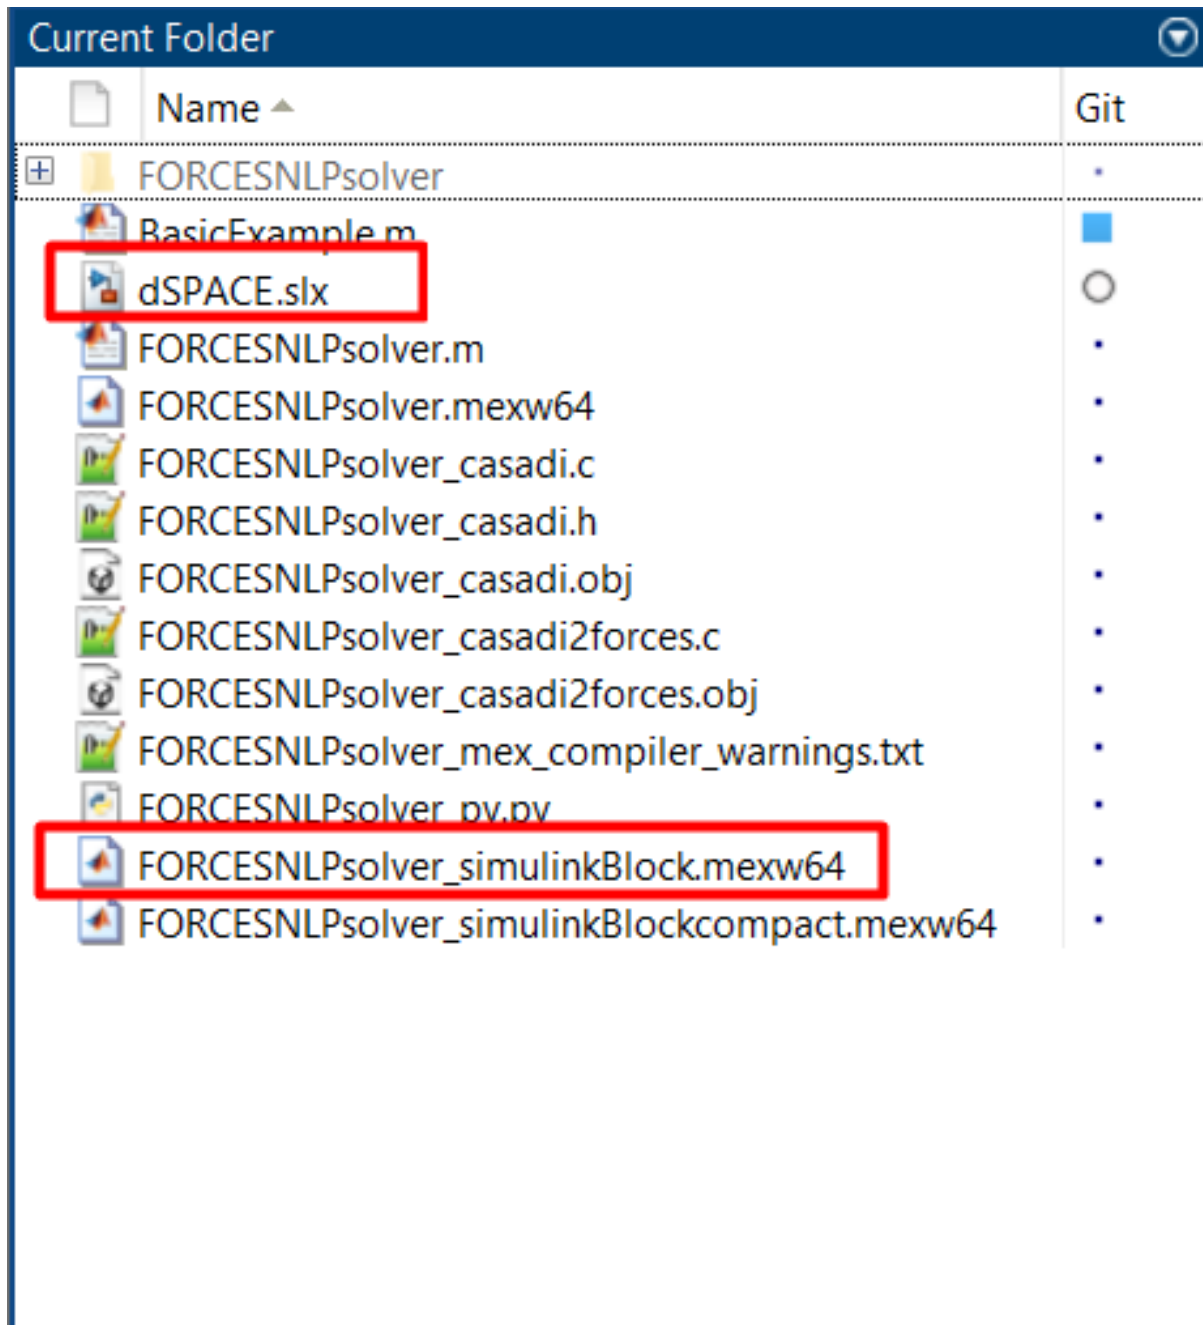

Figure 13.34: The `.<mex_extension>` solver file is in the same path as the model.
- 5) The `FORCESNLPsolver_simulinkBlock.<mex_extension>` file (created during code generation) needs to be in the same path as your model (see Figure 13.34).